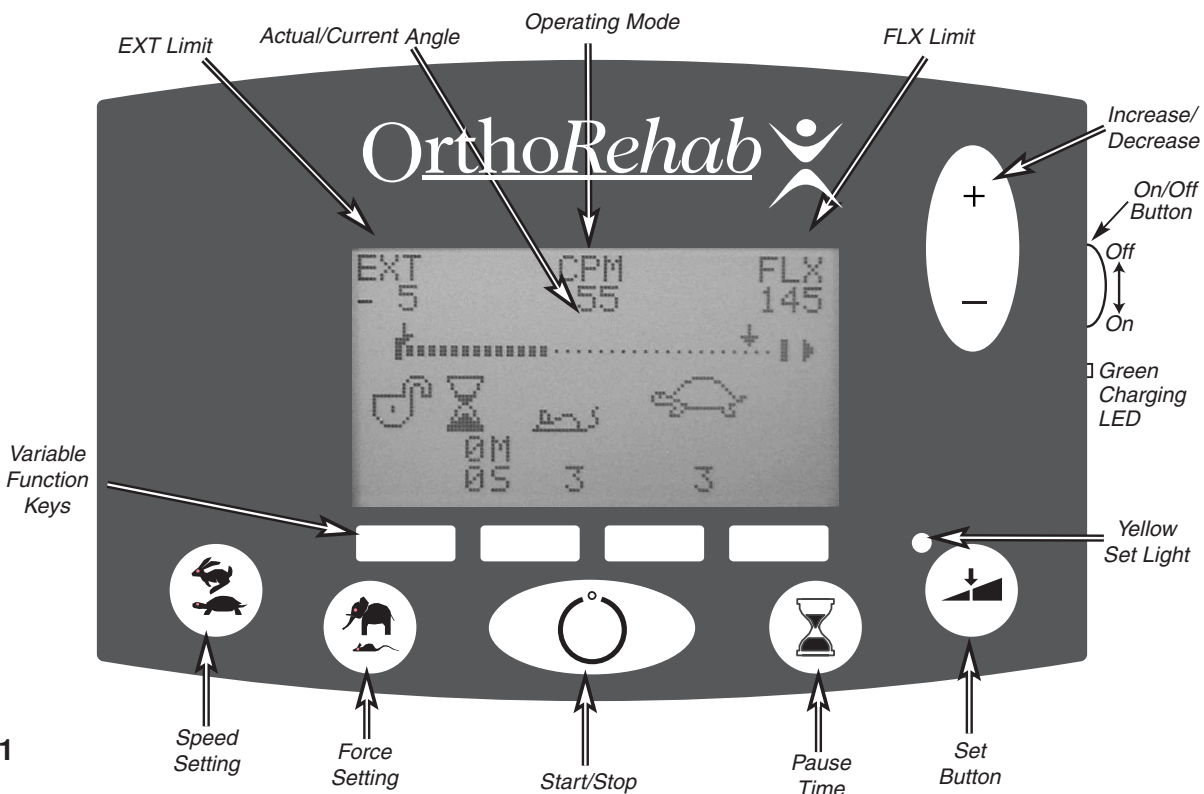

Fig. 3.1
- Turn the motion controller on by moving the On button at the right side of the unit down. (See Fig. 3.1)